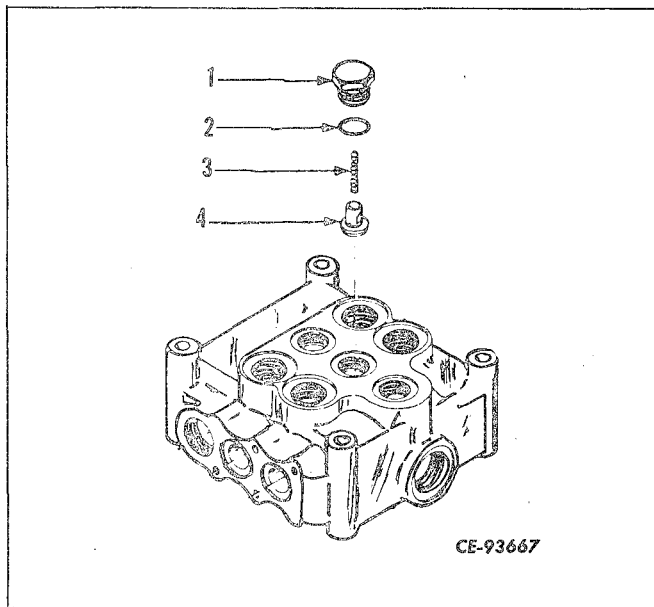

Figure 11-8
7. Check valve group - refer to Fig. 11-8.
Disassemble the valve in numerical order (refer to Fig. 11-8).